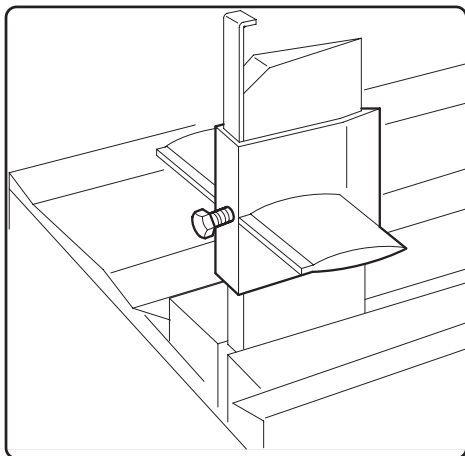

Fig. 9
1) Check the level of the hydraulic oil by means of the dipstick inserted in the filling pipe (see Fig. 9). A notch is cut into the dipstick showing the maximum level.